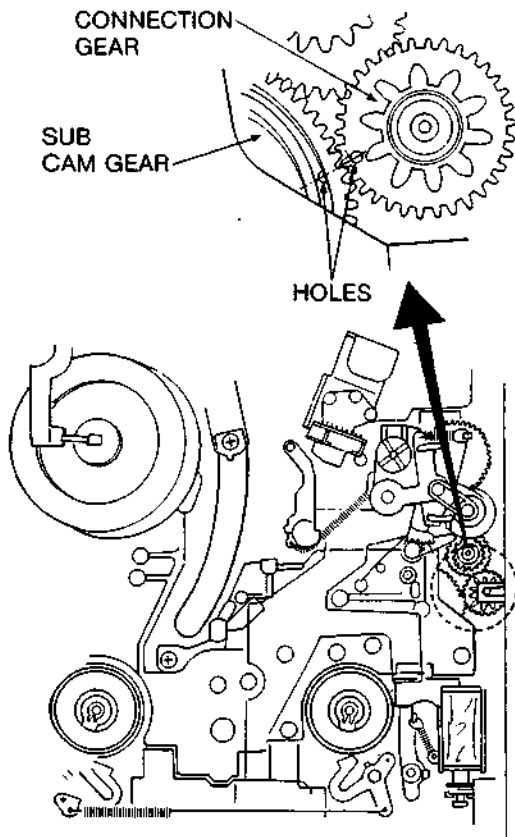

Fig.4-10
Install the connection gear pos. no. 65(1) so that the small hole of connection gear is exactly in line with the small hole of sub cam gear as shown in Fig. 4-10.